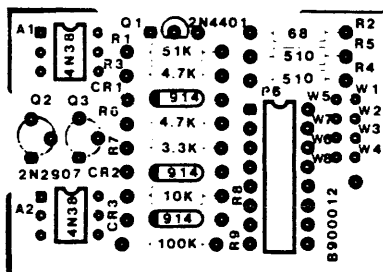

Figure 1 Location of Jumpers on Current Loop Board
2. Configure the current loop board to match the requirements of the system you want to interface with. See Figure 1 for jumper locations and Table 1 for configuration combinations. Note that the half duplex mode requires jumpers in the connector pins of the cable, as well as on the current loop board.